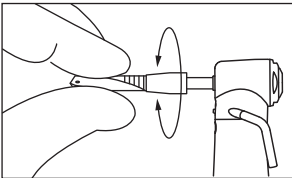

Fig. 2
- 2) Lightly turn the bur/drill until it engages with the latch mechanism. (Fig. 2)